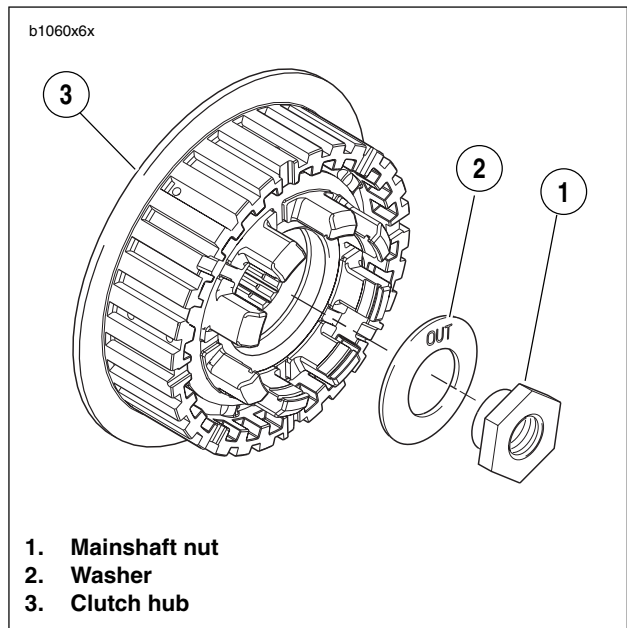

Figure 6-35. Mainshaft Nut and Washer
See Figure 6-35. Washer must be installed with the word "out" facing the mainshaft nut or transmission may be damaged.
6. See Figure 6-35. Install mainshaft washer (2) and nut (1).
- b. Place washer (2) on mainshaft with the word “out” facing away from clutch hub.
- c. Install nut (**left-hand threads**) (1). Tighten to 70-80 ft-lbs (94.9-108.5 Nm).